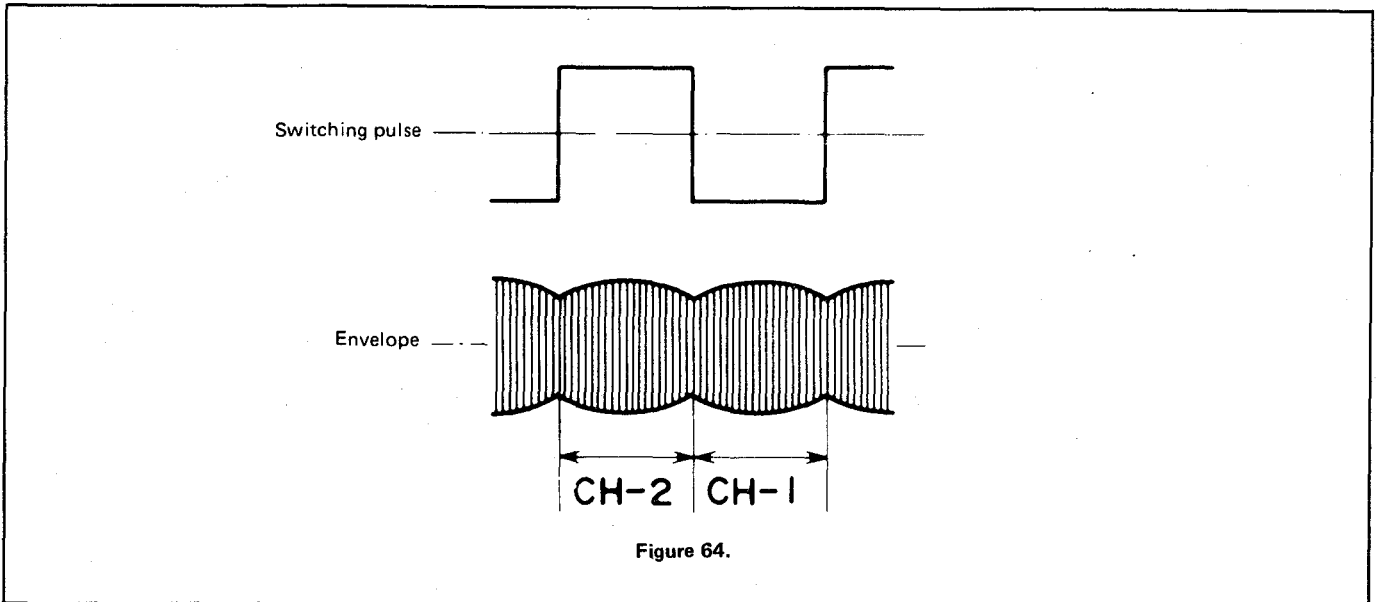

Figure 64.
• Fine adjustment (1)
2. Triggering the output signal with switching pulses, observe its envelope. See Fig. 64.